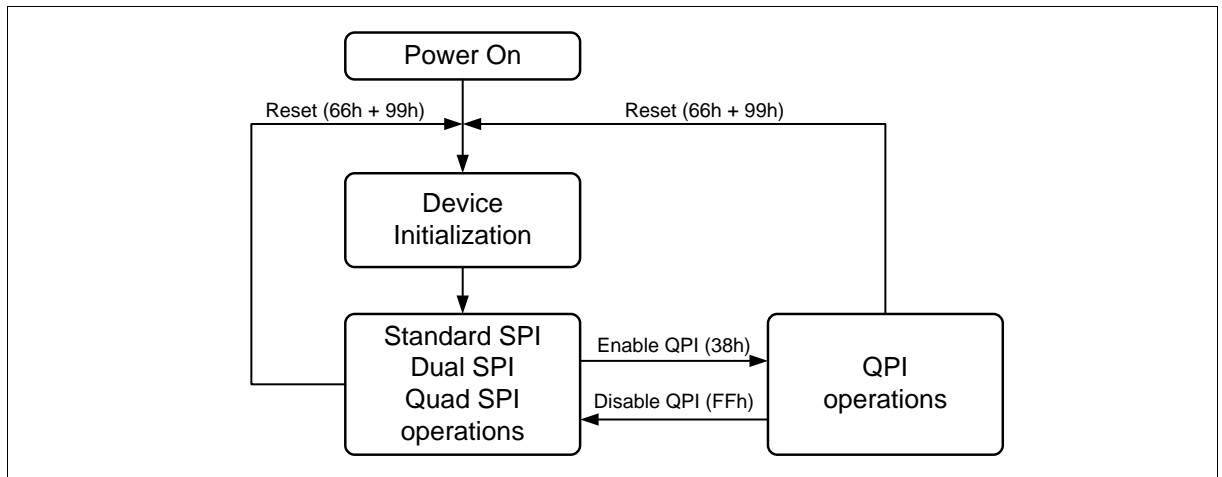

Figure 2 FM25W32 Serial Flash Memory Operation Diagram
The FM25W32 supports Quad Peripheral Interface (QPI) operations only when the device is switched from Standard/Dual/Quad SPI mode to QPI mode using the “Enable QPI (38h)” instruction. The typical SPI protocol requires that the byte-long instruction code being shifted into the device only via DI pin in eight serial clocks. The QPI mode utilizes all four DQ pins to input the instruction code, thus only two serial clocks are required. This can significantly reduce the SPI instruction overhead and improve system performance in an XIP environment. Standard/Dual/Quad SPI mode and QPI mode are exclusive. Only one mode can be active at any given time. “Enable QPI (38h)” and “Disable QPI (FFh)” instructions are used to switch between these two modes. Upon power-up or after a software reset using “Reset (99h)” instruction, the default state of the device is Standard/Dual/Quad SPI mode. To enable QPI mode, the non-volatile Quad Enable bit (QE) in Status Register-2 is required to be set. When using QPI instructions, the DI and DO pins become bidirectional DQ_0 and DQ_1 , and the WP# and HOLD# pins become DQ_2 and DQ_3 respectively. See Figure 2 for the device operation modes.